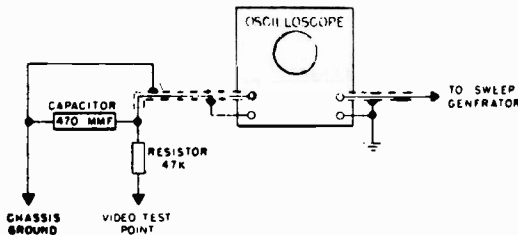

FIGURE 1; Oscilloscope Coupling Network
1. OSCILLOSCOPE with appropriate decoupling network. (See figure 1). Calibrate oscilloscope for 2 volts peak to peak. Connect oscilloscope vertical input to test point B. (Marked "T.P.B." on schematic diagram, in output circuit of video detector.)
2. VTVM with appropriate decoupling network. (See figure 1). Set VTVM to read -1 V to -1½ V. Connect VTVM to T.P.B.
- Remove back cover. (Figure 1.)